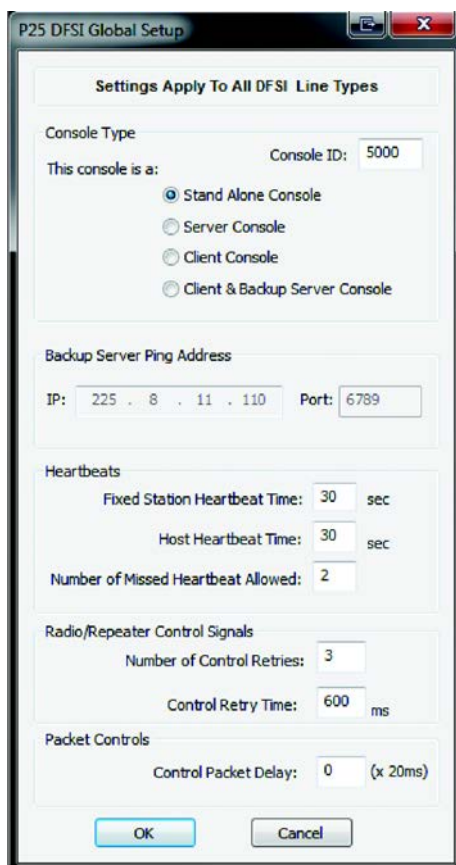

FIGURE 206. P25 DFSI Global Setup Window
The P25 DFSI Global Setup window, shown in Figure 206, is used to determine what type of console is required for the system.
A Console ID must first be added. See Figure 206. This ID is used by the individual radios to make Private Calls with the console. This ID shows up as the radio ID when implementing a PTT from the console.
NOTE: Below are four (4) examples of how a console can be configured, depending the Console Type selected in P25 DFSI Global Setup window (i.e. Stand Alone, Server or Client). See Figure 206.